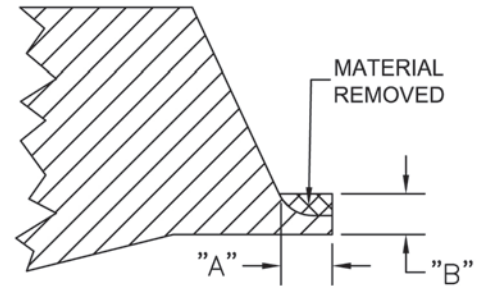

Figure 3-64. Cutting the J-prep.
- 2.** Perform the straight bevel operation, stopping on each pass as you reach the “B” dimension on the pipe face. You can stop and measure as you cut, or mark the location on the pipe face before you start. See Step 1 in Figure 3-64.
10. Turn the feed knob counter-clockwise to advance the radius tool into the pipe. Continue feeding until the radius blends into the bottom of the bevel (Step 2 in Figure 3-64).